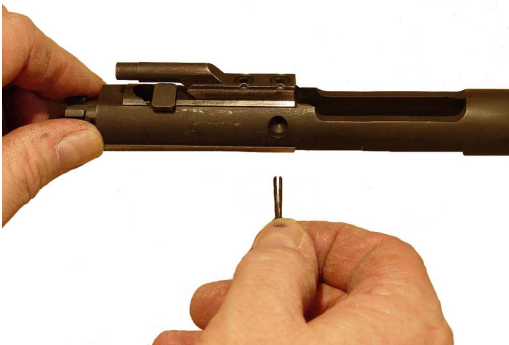

Figure 3-9. Firing Pin Retaining Pin Removal
- (1) Remove firing pin retaining pin. Refer to Figure 3-9.